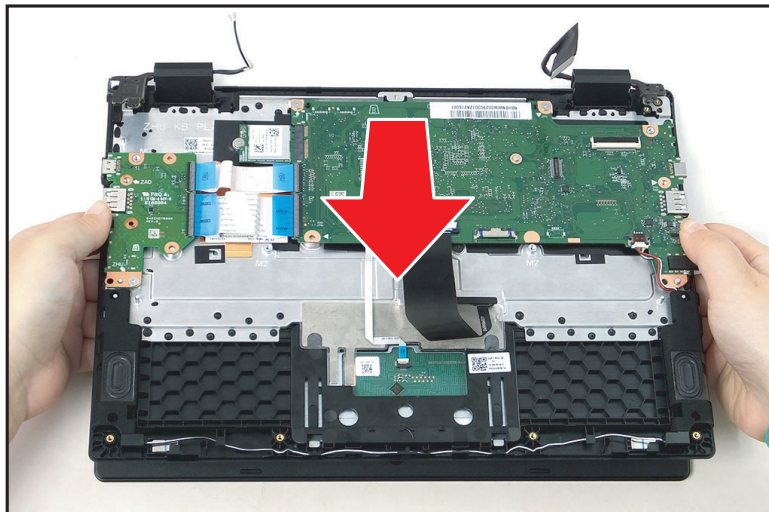

Figure 1-11. LCD Module Removal
7. Slide and then remove the top assembly from the LCD module (Figure 1-11).